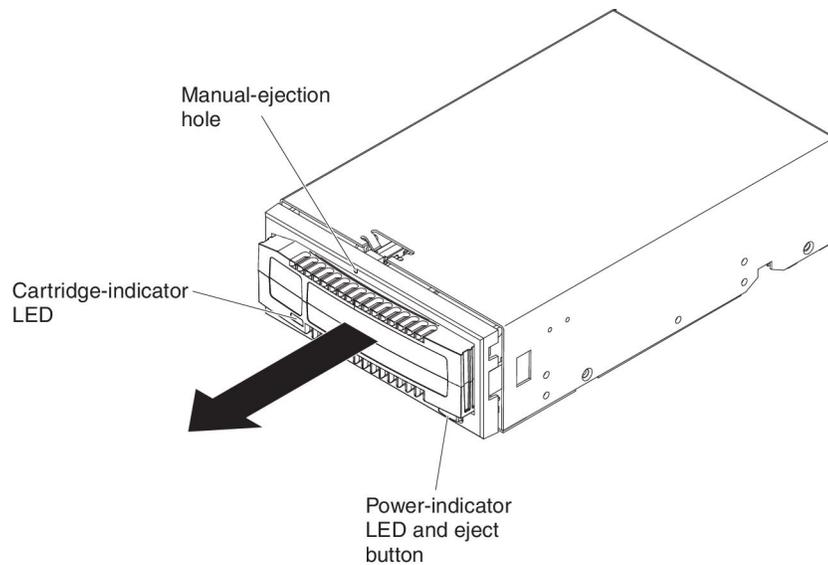

Figure 10. Ejecting a cartridge
- Press the eject button on the drive (see Figure 10 on page 14) for at least 0.5 second.
- Use the manual-ejection hole (see Figure 10 on page 14) to eject the cartridge in case of a power loss or when the other methods of cartridge ejection fail.